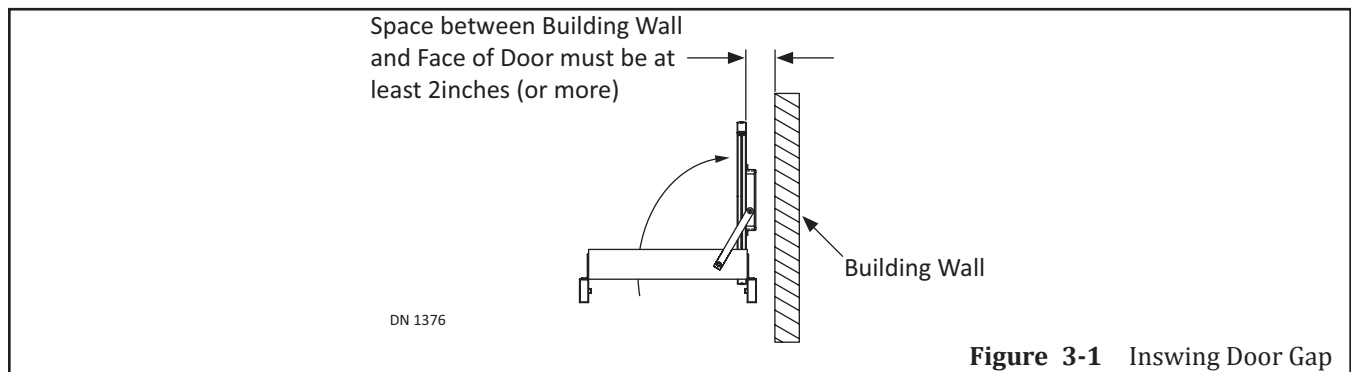

Figure 3-1 Inswing Door Gap
2. Measure between the wall and the outside face of the Swing Door. Please see Figure 3-1.
- a. There must be a 2 inch minimum gap. If there is less than a 2 inch gap, please call Customer Service at (877) 622-2694.